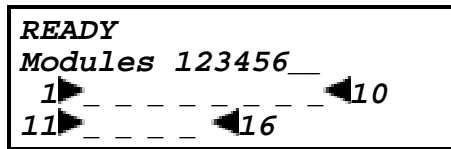
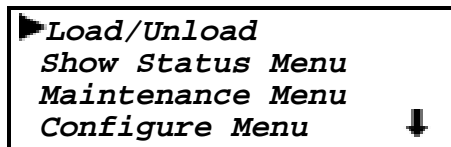
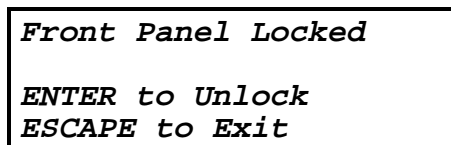

Figure 3-6 **Default Screen**
Figure 3-10 Main Menu
Figure 3-11 Panel Locked Screen
- 2) To return to the Main Menu from a submenu, press the **Escape** button repeatedly until the Main Menu appears. Pressing the **Escape** button while the Main Menu is displayed exits the Menu Mode and returns you to the Default Screen. The Default Screen is shown in Figure 3-6; the Main Menu is shown in Figure 3-10.
After the POST diagnostics have concluded successfully and initialization is complete, the system default screen appears, as shown in Figure 3-6.
When the Default Screen appears on the screen, you can enter the Menu Mode by pressing the **Enter** button. The Main Menu shown in Figure 3-10 appears.
Note: If the Control Panel has been locked, the screen shown in Figure 3-11 appears instead of Figure 3-10. You must know the unlock code for the system before you can proceed.